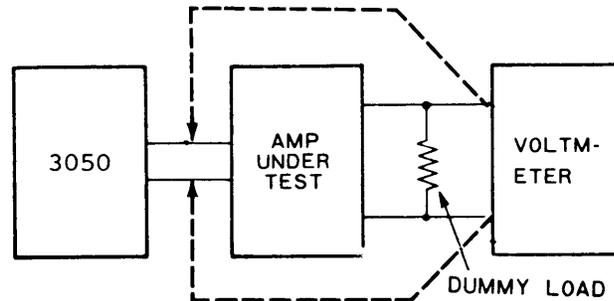

Fig. 3. Test circuit.
Set up the test circuit shown in Fig. 3 with WAVE FORM selector switch of model 3050 set at position \sim so as to provide sine wave output.
1. This method is used to measure the dynamic frequency characteristic of an amplifier. In this case, the 3050 is used as the signal source with its WAVE FORM selector switch 6 set to position \square . The test circuit of Fig. 3 may be used, with the electronic voltmeter replaced by, or connected in parallel with, an oscilloscope.